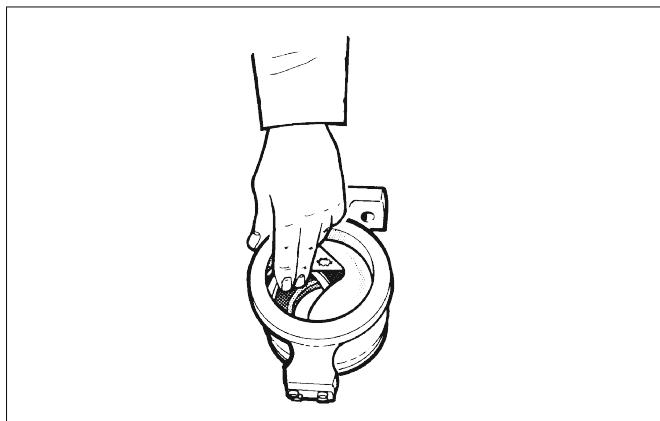

Fig. 18 Slipping the seat into the body
- ❑ Place the seat package into the body as shown in Figs. 18 and 19.